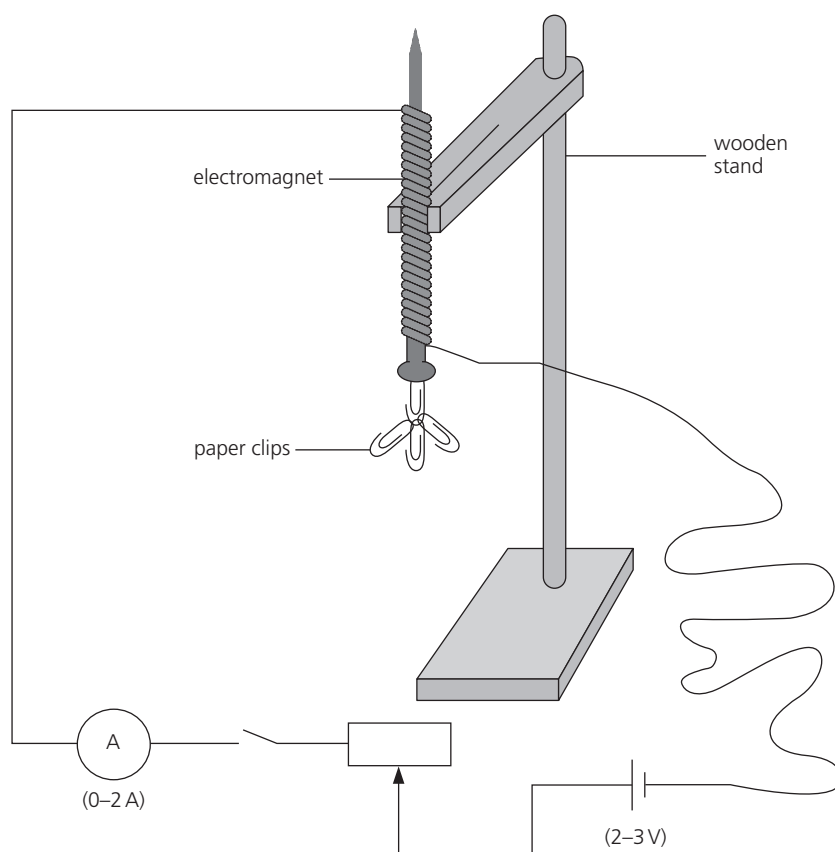

Figure 1
- 2 Set up the circuit shown in Figure 1 with the rheostat (variable resistor) set at maximum resistance.